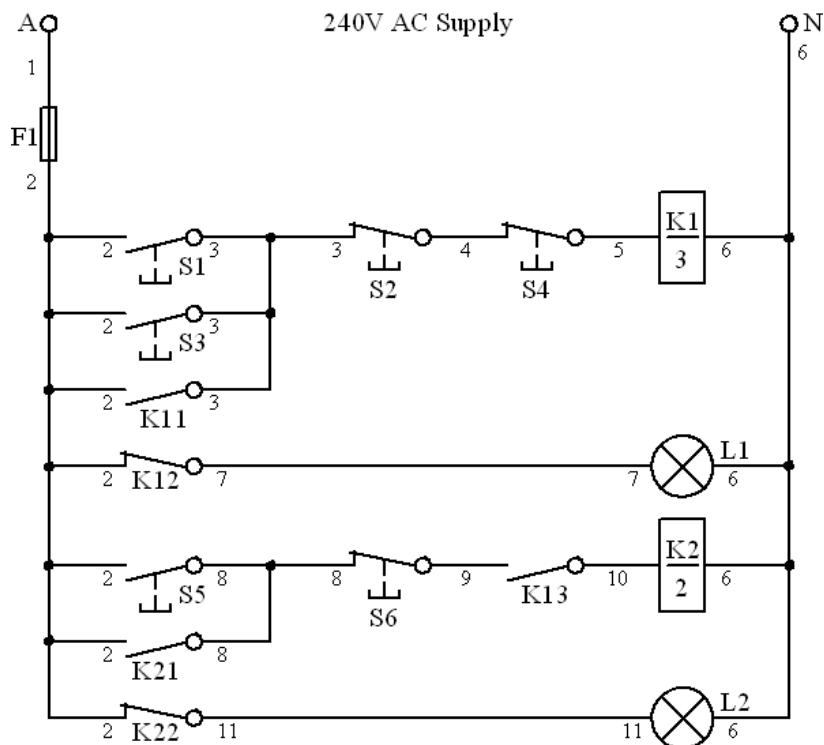

Figure 1
9. Determine the probable faults in the circuit of figure 1, if the following symptoms existed -